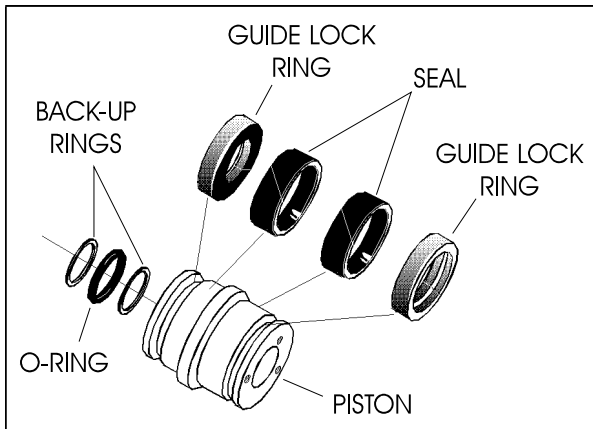

Figure 5-71. Piston Seal Kit Installation
- Place new guide locks and seals in applicable outside diameter grooves of cylinder piston. (See Figure 5-71. Piston Seal Kit Installation.)